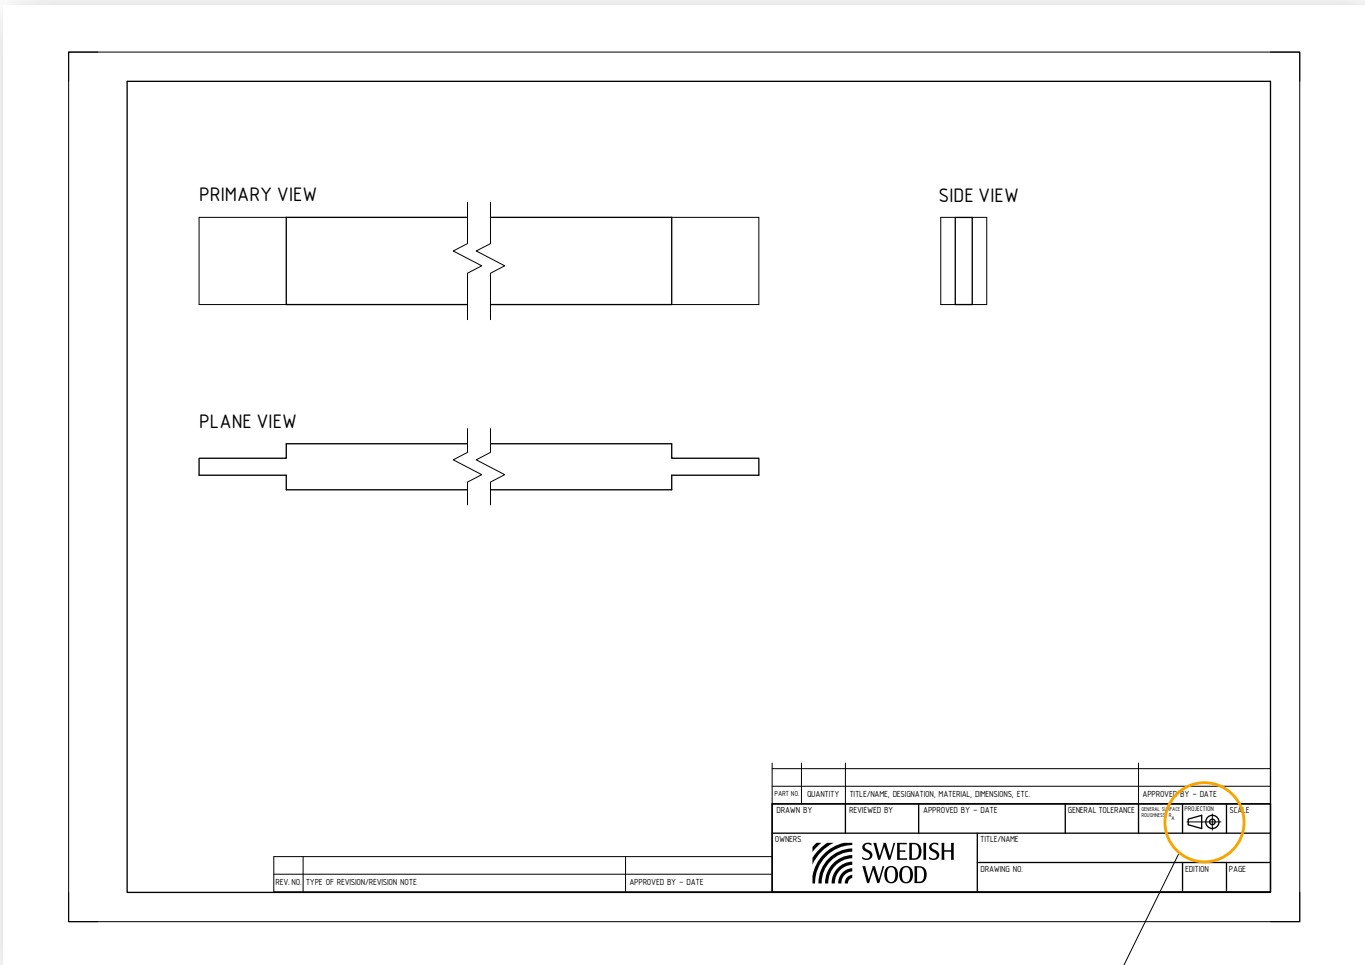
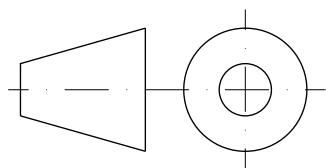

Figure 1.5 Drawing using the European projection method. The symbol, see figure 1.6, is placed in the title block
Figure 1.6 Symbol for European projection
The European projection method (method E) is also called “the first angle projection” or “the tipping method”, as the figures are tipped over on their side. To achieve different views, an object can be tipped into different positions, see fig. 1.5. You begin by drawing the primary view (A), which is the “view from the front”. The primary view must be the side of the object that is usually considered the front or the side that best describes the appearance. The primary description does not provide sufficient description of the object. To make the drawing clear and usable, the view must be drawn from at least two sides. In addition to the primary view, there are further views to choose from when creating a full picture of the detail. The symbol for the European projection can be seen in fig. 1.6 and it is placed in the main field on the technical drawing template. There are other types of projection and these are shown using other symbols in the same field.